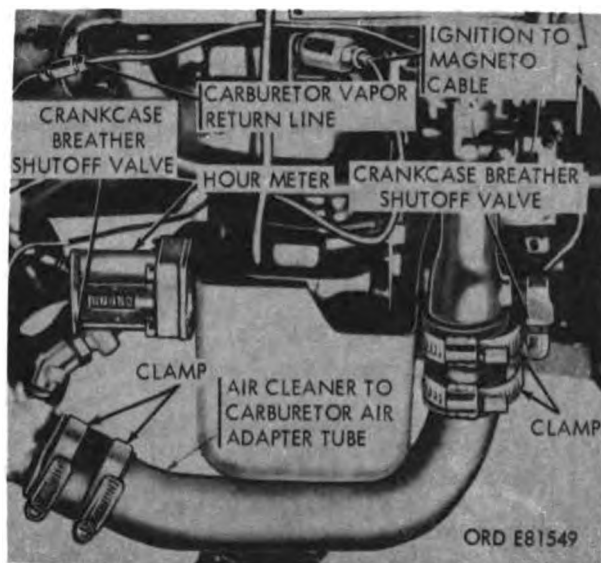

Figure 2-3. Air cleaner-to-carburetor adapter tube.
- d. Disconnect intake tube (air cleaner-to-carburetor). Loosen outer clamps at each end of air cleaner-to-carburetor adapter tube (fig. 2-3).
- h. Disconnect ignition switch-to-magneto cable from magneto (figs. 2-3 and 2-4) and ground magneto or disconnect spark plug wires (TM 5-2805-218-14).
i. Disconnect carburetor vapor return line at union located at top of engine, left of magneto (figs. 2-3 and 2-4).